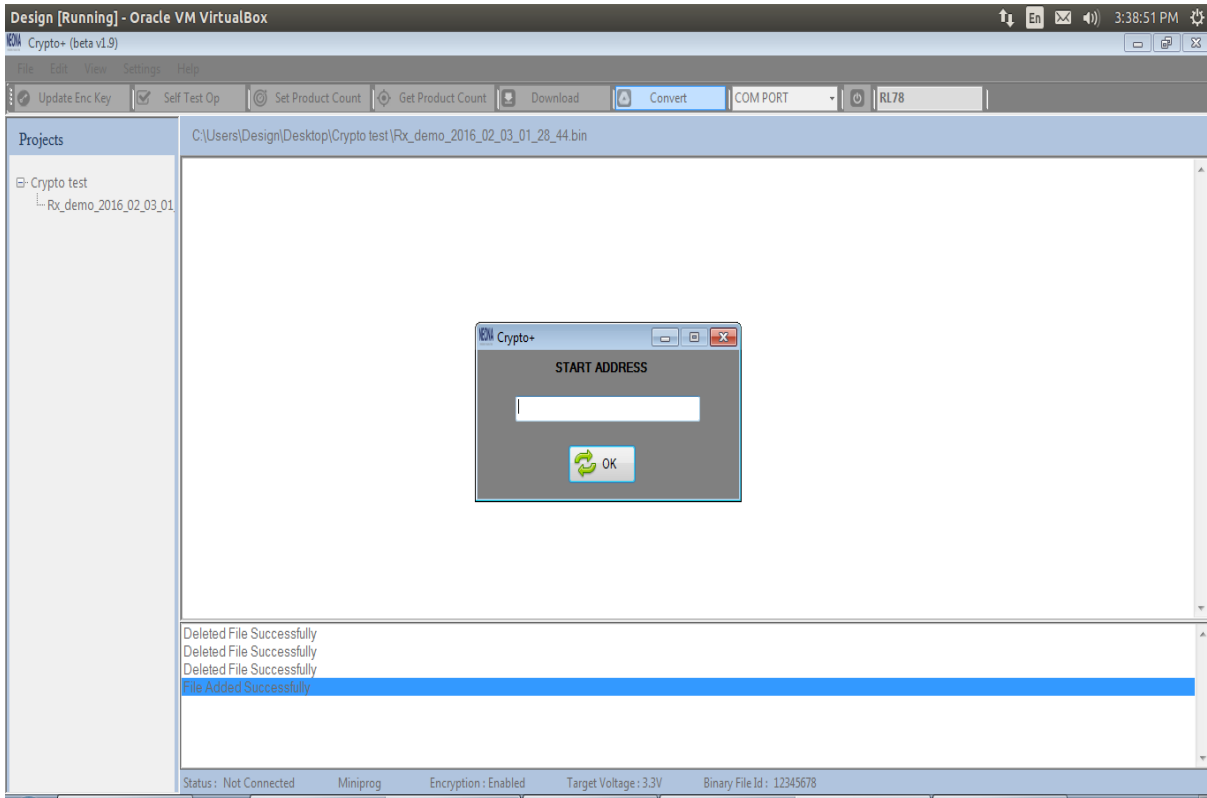

Figure 2.28
STEP 2: Prompt for entering start will be displayed as shown in figure 2.28. Enter the 8 digit start address & click on **OK**.